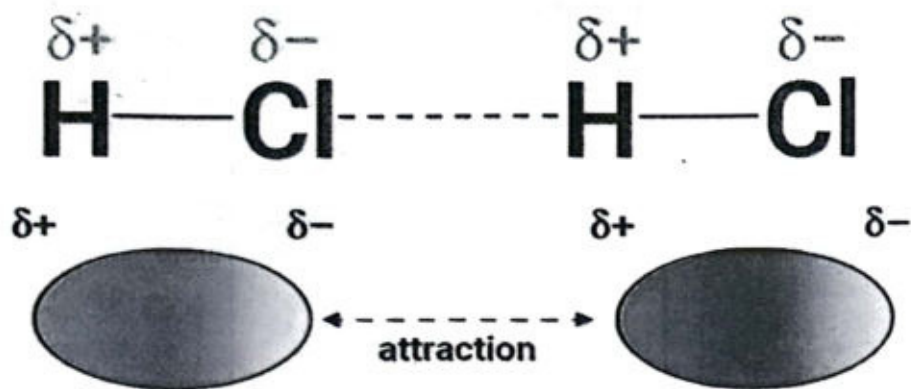

Fig. 7.4: Dipole-dipole interaction
- Dipole-dipole forces exist between polar molecules (molecules which have partial charges at opposite ends of the molecules). Dipole-dipole interaction is shown here in figure 7.4.